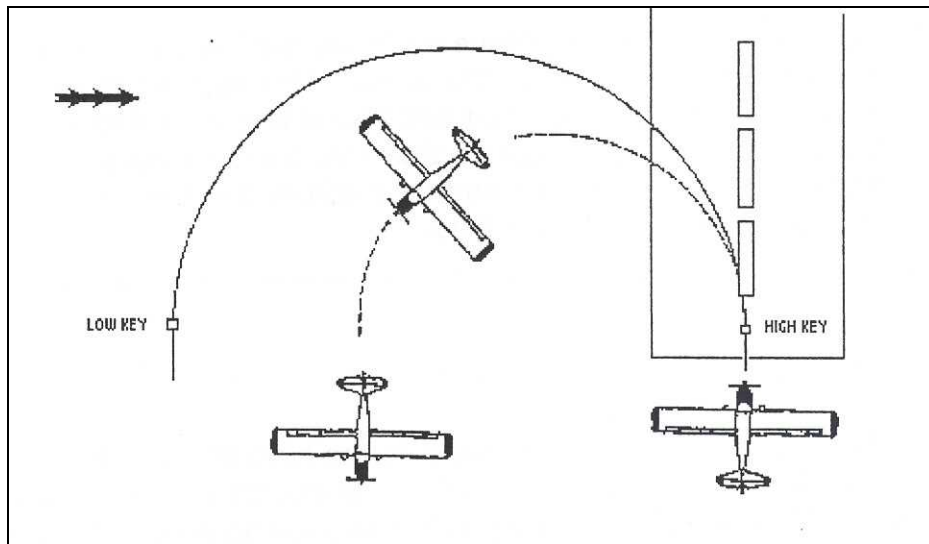

Figure 7-4 Effects of Strong Crosswind
6. A strong crosswind has an even more adverse effect. For example, if you use 30 degrees of bank a strong crosswind from the direction in which you orbit will cause low key to be too close to the runway. If this is not corrected, the shorter path remaining to the end of the runway will cause the aircraft to overshoot the centreline of the runway, or be unacceptably high on final. Thus, you must vary the turn by using less bank so that the aircraft ends up at the correct low key position (Figure 7-4). Also, you must use more bank on the final turn so that the aircraft does not overshoot the extended centreline. Should the crosswind be from the other side, thus causing the aircraft to drift away from the runway, use more bank in the first half of the turn and less in the second half. Avoid the requirement to use excessive bank on final, at low airspeed, in an attempt to line up on the runway centreline.